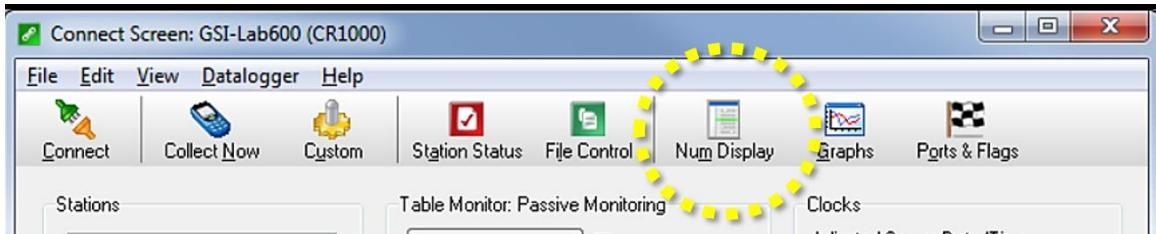

Figure 103. Click Num Display to Load the Configuration Files
3. Click on the “Num Display” in Figure 103.